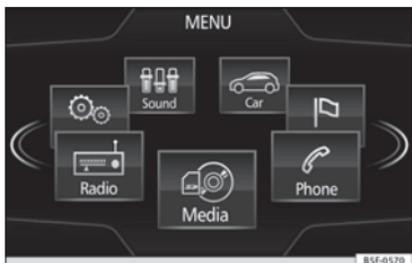

Fig. 27 See Fig. 3 for positioning
- Press the Easy Connect button » **Fig. 27**.